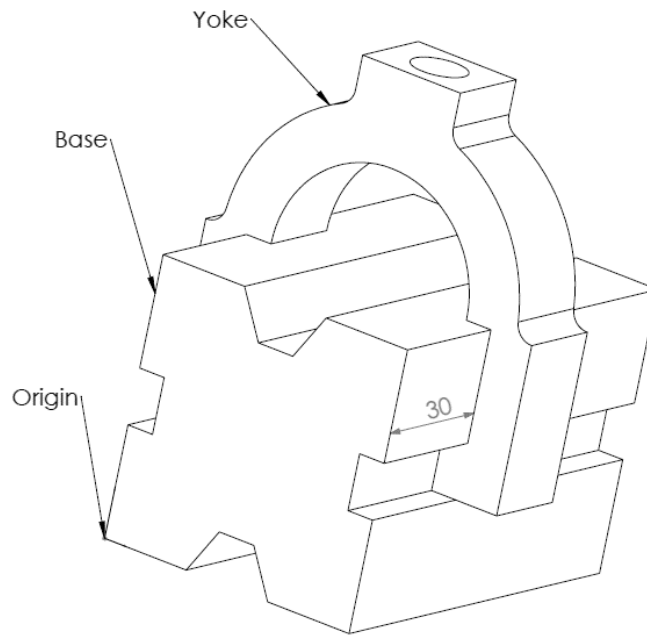

Figure 5.1
- b) In Figure 5.1, the distance between the front face of the Base and the front face of the Yoke is 30 mm. Change this distance to 20 mm. What is the centre of mass of the assembly? You need to provide the Figures of Assembly, Feature Manager Design Tree, Part of the tree showing all the mates and Mass Properties.